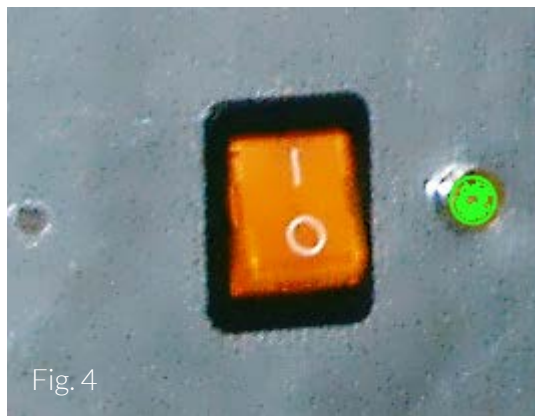

Fig. 4
- Operate the 2-way switch to turn on the duct filter unit (Fig. 4).